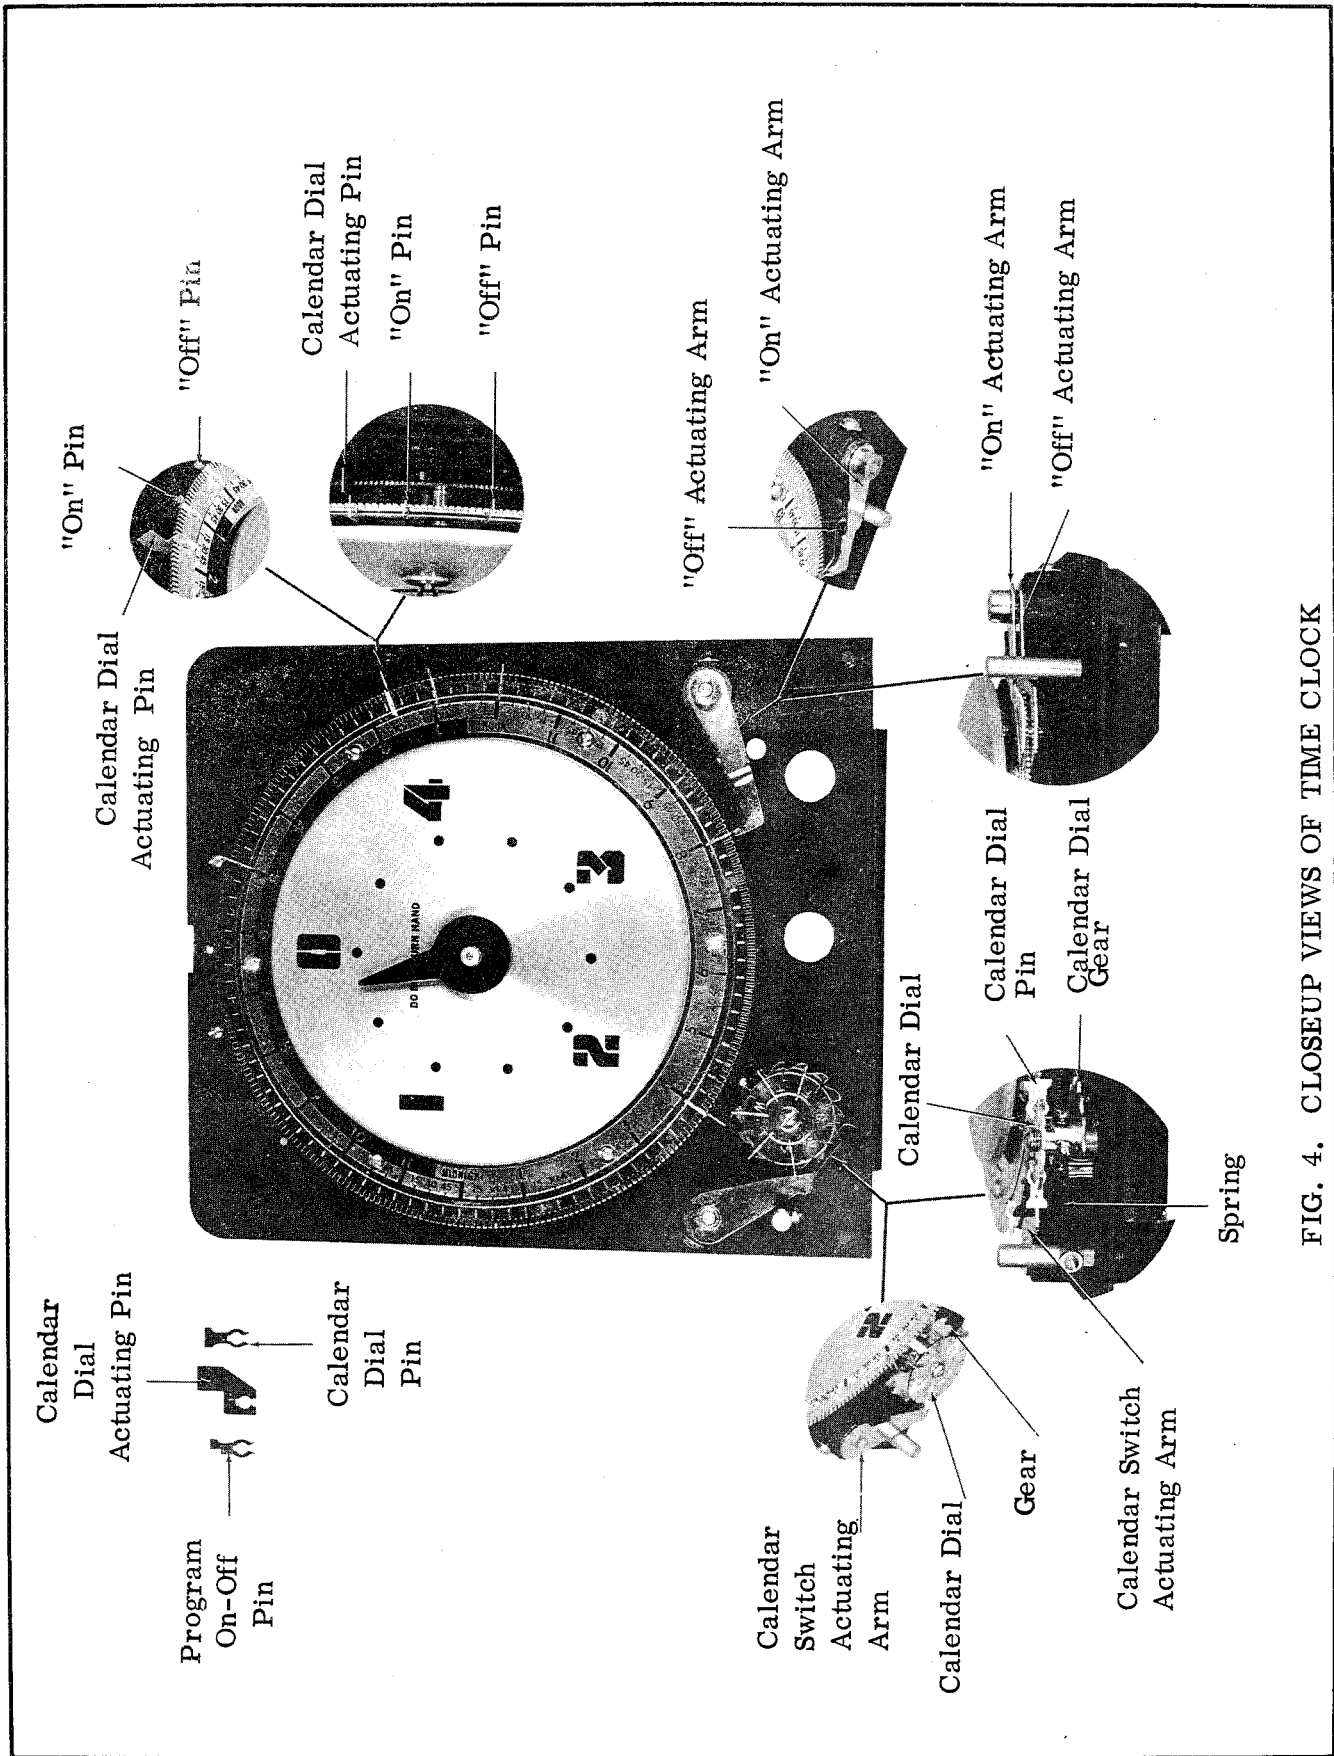

FIG. 4. CLOSEUP VIEWS OF TIME CLOCK
(1) The system is to operate from 8:00 a.m. to 12:00 noon, and from 1:00 p.m. to 5:00 p.m., five days a week. (FIG. 4 is set up for this operation.)